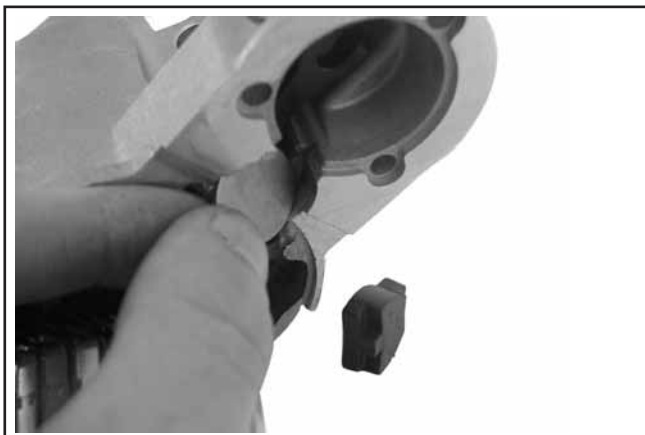

Figure 7-45. Removing Pivot Bushing and Backing Plate.
7. Remove the drive lever pivot bushing and backing plate from the end cap. See Figure 7-45.